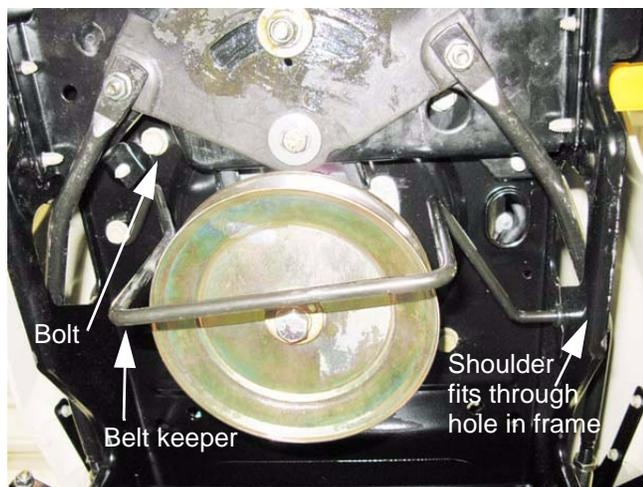

Figure 5.51
- 8a. With manual PTO, a single bolt holds the belt keeper to the frame, to the left side of the engine. See Figure 5.51.